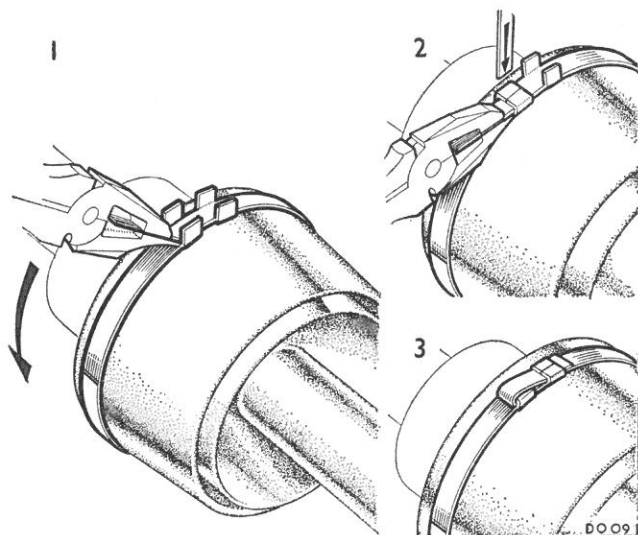

Fig. G.6
- (26) Slide the rubber boot over the bell joint until the radiused rib registers in the locating groove, and secure it with the large clinching clip using Service tool 18G 1099 as shown in Fig. G.6. This is fitted with the tab pulled through away from the direction of forward rotation. Locate the other end of the boot in the groove in the drive shaft and secure it with the small clinching clip using pliers 18G 1099.
- (27) Lubricate the yoke end of the drive shaft and the inside of the yoke housing seal and slide the seal onto the shaft. Fill the cavity in the sliding joint yoke with $\frac{3}{4}$ oz. (21 gm.) of Duckham's M-B grease and fit the yoke to the shaft. Locate the seal into the groove on the shaft and the other end over the sleeve location. Push the shaft to the bottom of the yoke so that grease is driven into the seal. Hold the outer lip of the seal open to allow air and surplus grease to escape, ensure that the diameter of the bellows does not exceed 1.75 in. (44.5 mm.). Secure the yoke seal with clinching clips using pliers 18G 1099.